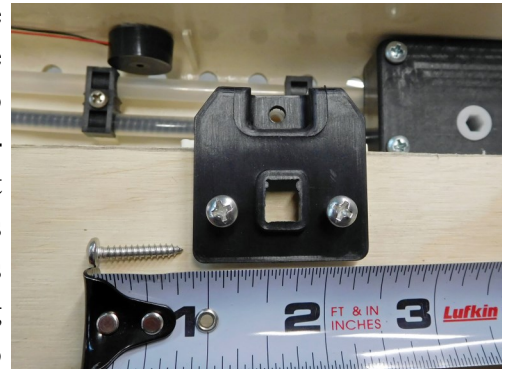

Figure 4
8. Working quickly, move to the inside of the camper and begin screwing the black mounting clamps into the ceiling using two 3/4" screws in each clamp as shown in *Figure 4*. Pilot holes (7/64") may be needed depending on the composition of your roof. Snug all of the screws down using a hand screwdriver. Do not over tighten. They just need to be snug. Once all the clamps are secured to the roof, tighten the longer mounting screws to draw the hatch and clamps together. A drop of light oil on each screw will allow them to install easily. It is suggested that you do the final tightening in a cross pattern to draw the hatch down evenly. Once again, a hand driver will give much better feel and prevent over tightening. The mounting flange should be drawn down flush with the roof surface, all the way around without distortion. Clean up any excess adhesive before it dries.